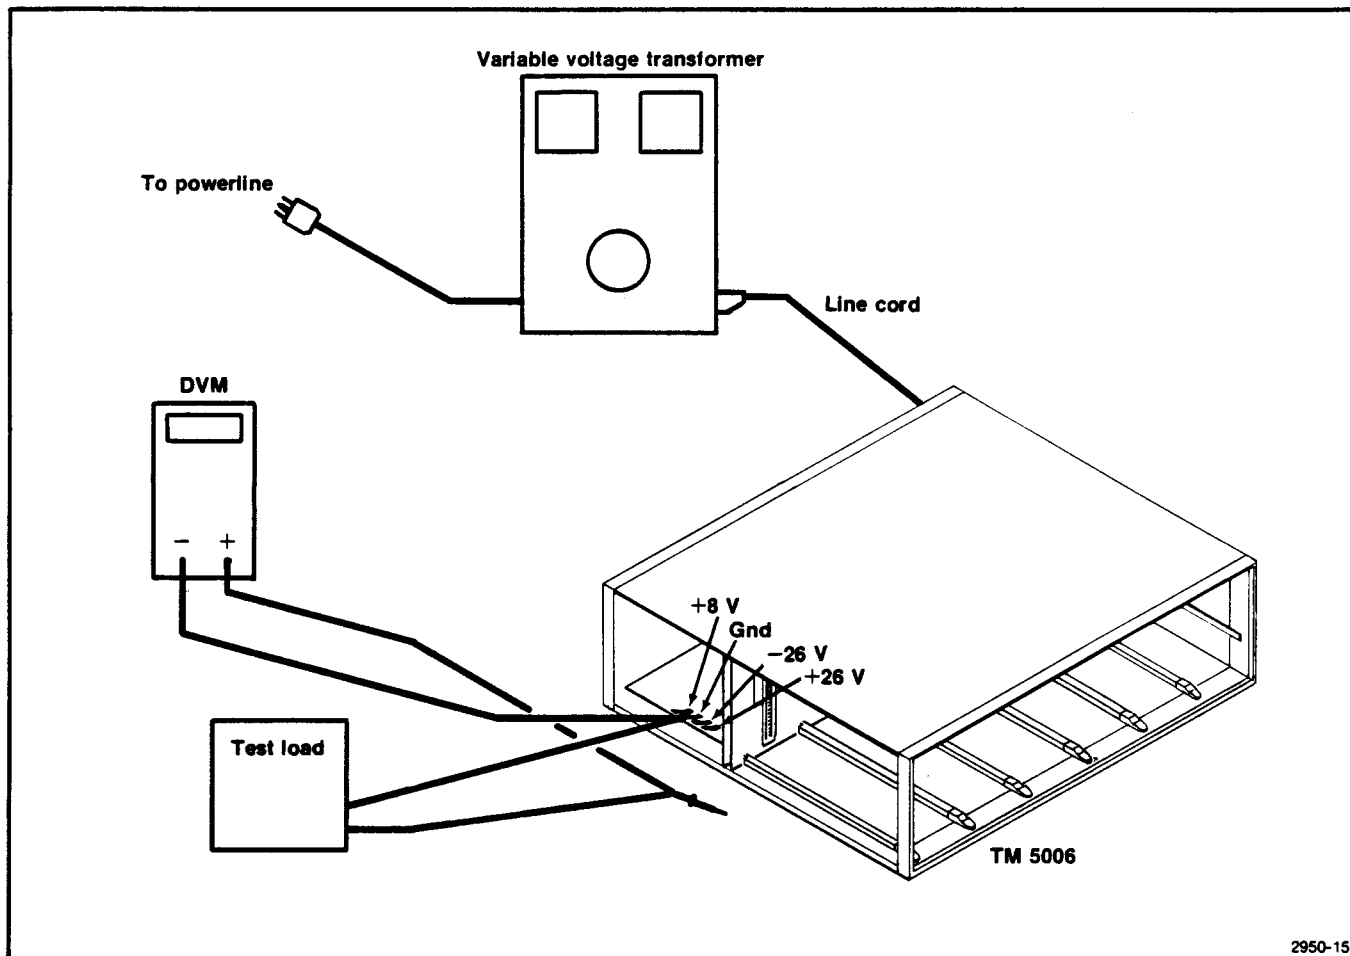
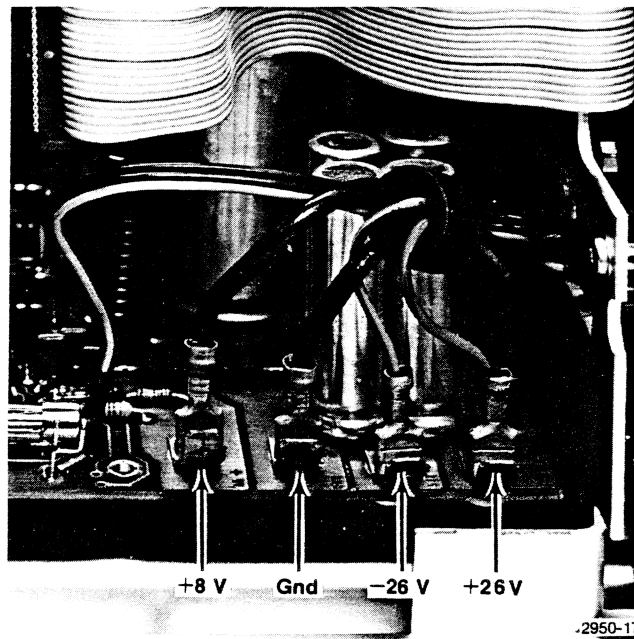

Fig. 4-2. Test setup for performance check steps 1, 2 and 3 and location of connections for adjustment step 1.
Fig. 4-5. Location of voltage buses.
- a. Connect the test equipment as shown in Fig. 4-2. Adjust the line voltage to the TM 5006 for 10% below the nominal line voltage. (Nominal line voltage is the line voltage the instrument is set to operate on.)
- a. Connect the test equipment as shown in Fig. 4-2. Adjust the line voltage to the TM 5006 for 10% below the nominal line voltage.
- a. Connect the dvm to the +8 V and Gnd terminals as shown in Fig. 4-2. The voltage bus location is shown in Fig. 4-5.